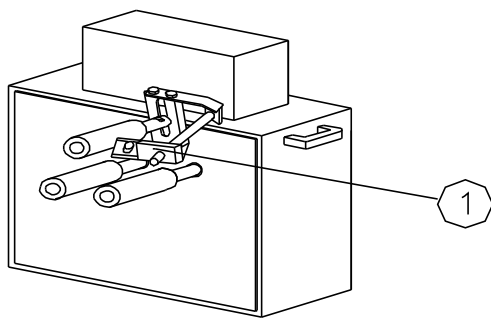

fig. 14
- regulate the position with the potentiometer (fig. 14).